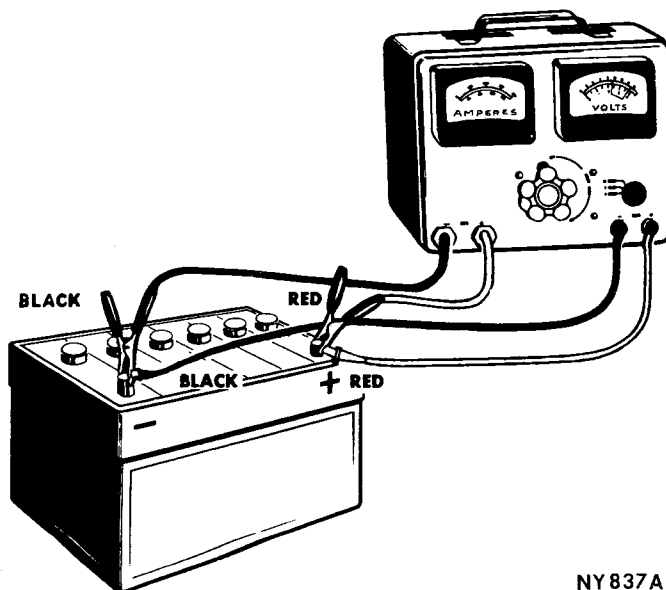

Fig. 2—High Rate Discharge Test
- (1) Turn control knob of Battery-Starter-Tester to OFF position.
- (2) Turn Voltmeter Selector Switch to the 16 Volt position on test units so equipped.
- (3) Connect test ammeter and voltmeter positive leads to battery positive terminal. Connect ammeter and voltmeter negative leads to battery negative terminal (Fig. 2). Voltmeter clips must contact battery posts or cable clamps and not ammeter lead clips.
- (4) Turn control knob clockwise until ammeter reading is equal to three times ampere hour rating of battery.
- (5) Maintain the load for 15 seconds and note reading of the voltmeter.